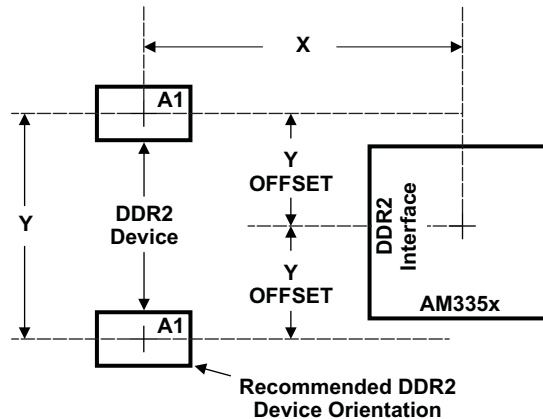

Figure 7-41. AM335x Device and DDR2 Device Placement
Figure 7-41 shows the required placement for the DDR2 devices. The dimensions for this figure are defined in Table 7-49. The placement does not restrict the side of the PCB on which the devices are mounted. The ultimate purpose of the placement is to limit the maximum trace lengths and allow for proper routing space. For single-memory DDR2 systems, the second DDR2 device is omitted from the placement.
(1) DDR2 keepout region to encompass entire DDR2 routing area.
(2) For dimension definitions, see Figure 7-41.
(3) Measurements from center of the AM335x device to center of the DDR2 device.
(4) For single-memory systems, it is recommended that Y offset be as small as possible.
(5) w is defined as the signal trace width.
(6) Non-DDR2 signals allowed within DDR2 keepout region provided they are separated from DDR2 routing layers by a ground plane.